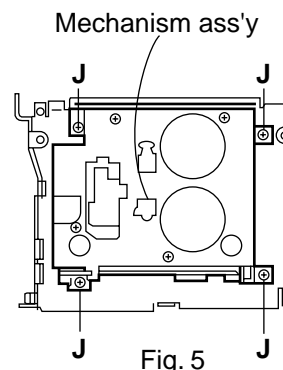

Fig. 5
■ Removing the mechanism ass'y (see Fig.5)